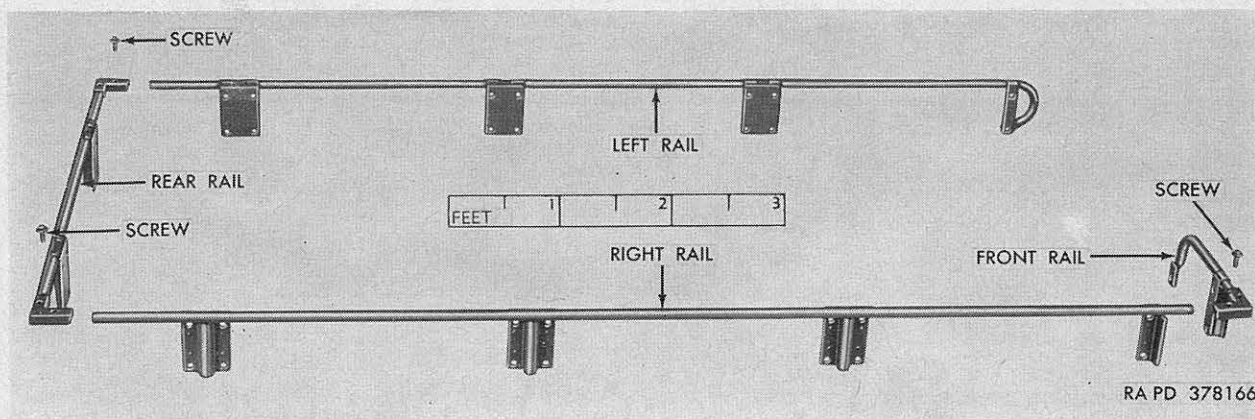

Figure 96. Handrail—exploded view.
*b. Disassembly.* Remove three hex-head screws (fig. 96) used to hold the parts of the handrail together, and separate handrail into front, right, rear and left sections.
*c. Assembly.* Using such new sections as necessary, secure the four parts (fig. 96) of the handrail together with three  $\frac{3}{8}$ -24NF x  $1\frac{1}{4}$  hex-head integral lockwasher screws.